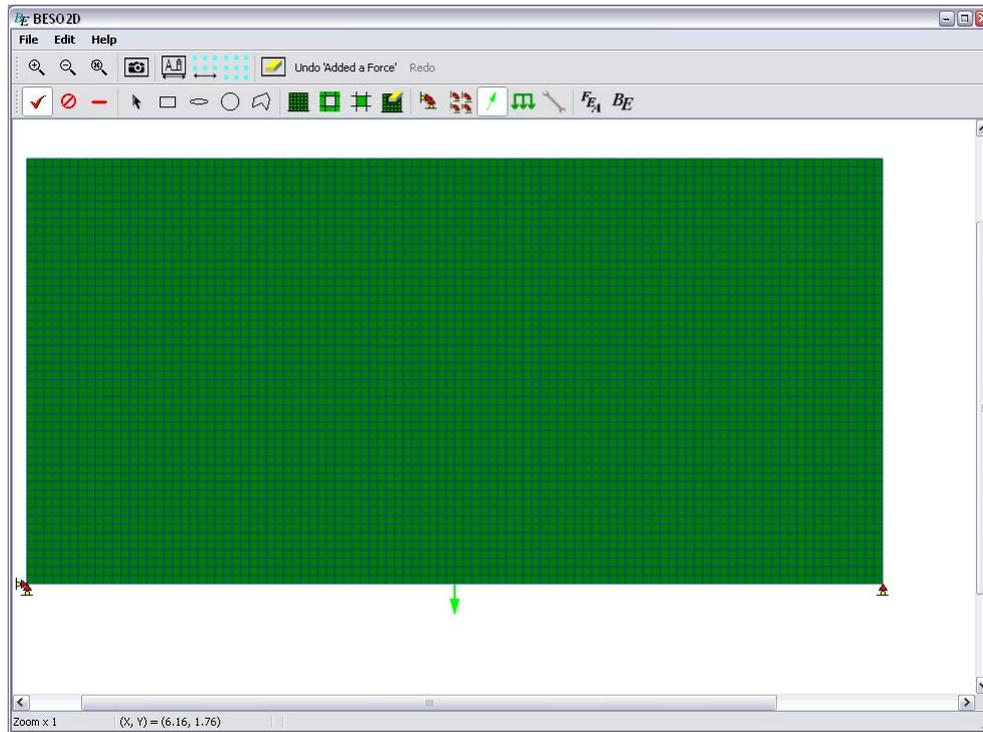

Figure 4 Structural model with boundary and loading conditions.
- By clicking on the  button in the **Draw/Run Toolbar**, the “Point load” dialogue will appear. Input the force components as 0 for Force-X and -100.0 for Force-Y. Click on “OK” and the dialogue will disappear. Move the mouse to the position of (6.0, 7.0) (the mouse position can be seen from the Status bar) and press the left mouse button to apply the force. The structural model with boundary and loading conditions is shown in Figure 4.